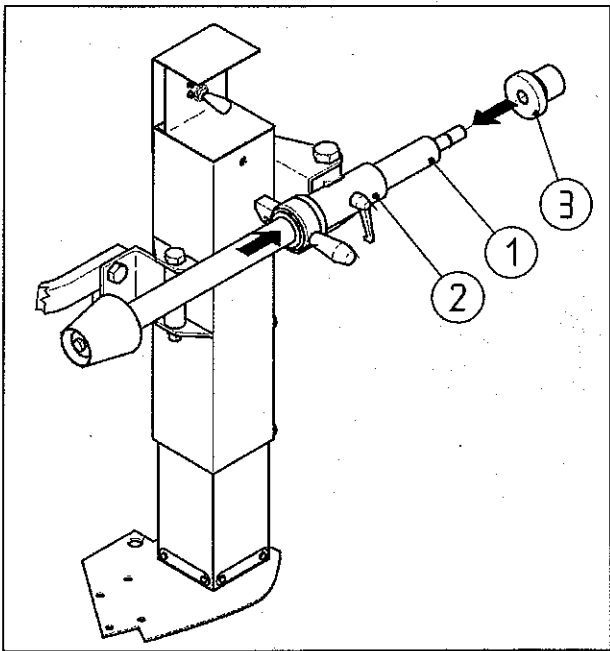

Fig.4
- A. Insert the arm (#1 Fig.4) in the support (#2) end push the roller inside the arm until it blocks.